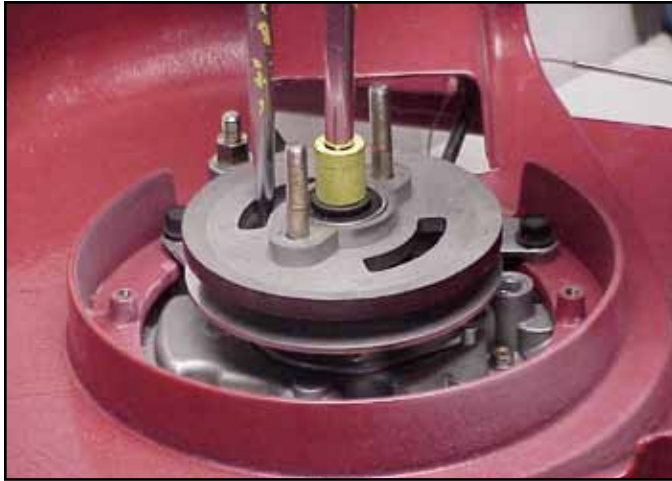

Fig 247
**Note:** Use a large screwdriver or pry bar to keep the pulley from turning while you unscrew the bolt (Fig. 247).